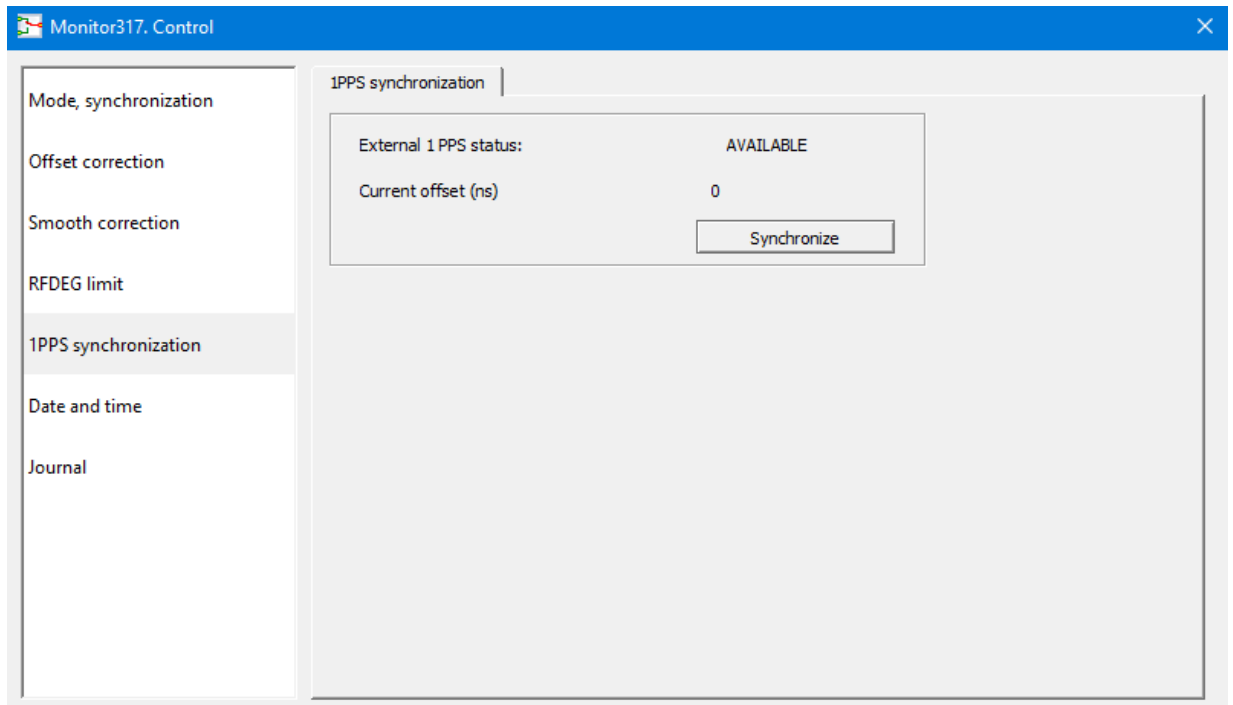

Figure 6.10
After pressing the "Synchronize" button, the synchronization process of the pulse-form 1 PPS output signals has been executed and the new value of the time delay of 1 PPS output signal relative to external 1 PPS signal is indicated on “**Current offset (ns)**” field. According to the item 3.4.5 this OM, after the end of the synchronization process, the “**Current offset (ns)**” value (see Figure 6.10 as an example) must be in the range from minus 20 ns to 20 ns.